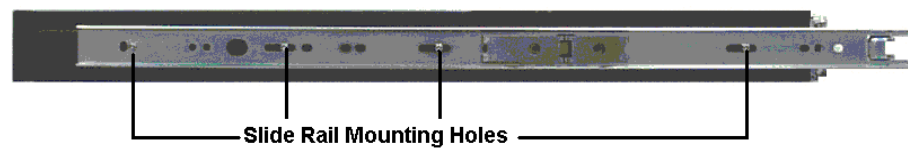

Figure 2-16: Mounting hole locations for the inner rail.
**Step 2. Attach the inner chassis slide rails** to the sides of the ER 2510FS RAID Controller Head using the enclosed screws. See *Figure 2-16*.